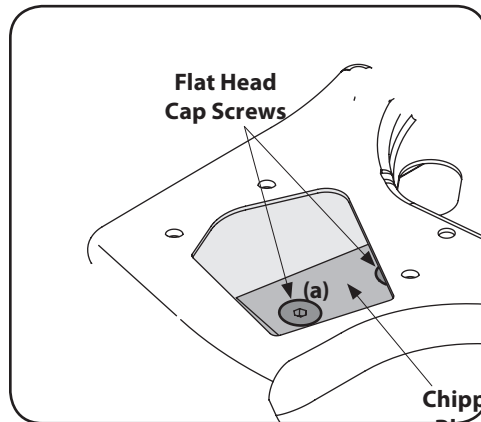

Figure 5-8
- Using a 3/16" allen wrench, remove the flat head cap screws (a) that hold the chipper blade to the impeller. These screws are accessible through the opening created when the chipper chute was removed earlier. See Figure 5-8.